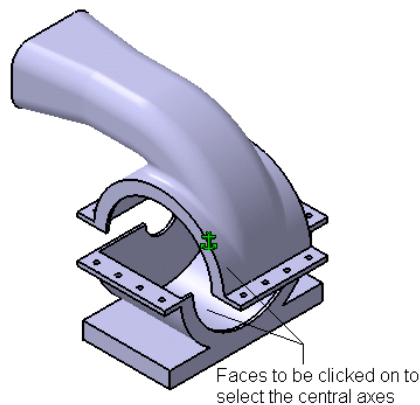

Figure 11-69 Surfaces on which you need to click to select the central axes
- Choose the **Coincidence Constraint** button from the **Constraints** toolbar. Now, select the two cylindrical surfaces, as shown in the Figure 11-69, to select the central axes of these surfaces.